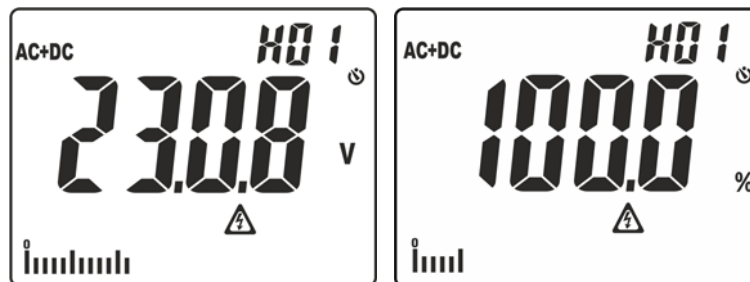

Fig. 3: Display of amplitude of harmonic analysis
- Simple pressing of the key to display the amplitude of voltage and current harmonics up to the 25th (**Hdc**, **H01... H25**) in absolute or percentage format in relationship with the fundamentals of input signals (for voltage values VAC > 0.5V and current values AC > 0.5A and frequency in the range 42.5Hz ÷ 69Hz) and the percentage value of parameter **THD%** (see § 9.4) as shown in Fig. 3. Use keys \blacktriangle and $\blacktriangledown/\text{I}$ to increase/decrease the order of the harmonic.